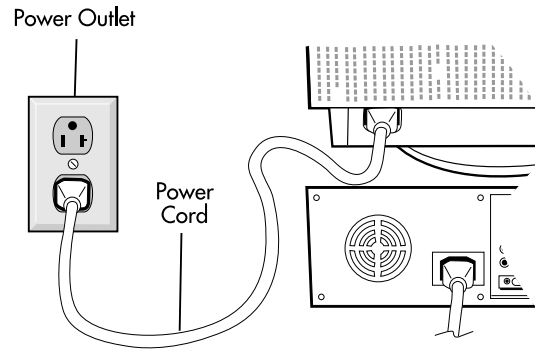

Figure C.1
5. Connect one end of the power cord to the monitor and the other end to the power outlet (**Figure C.1**).